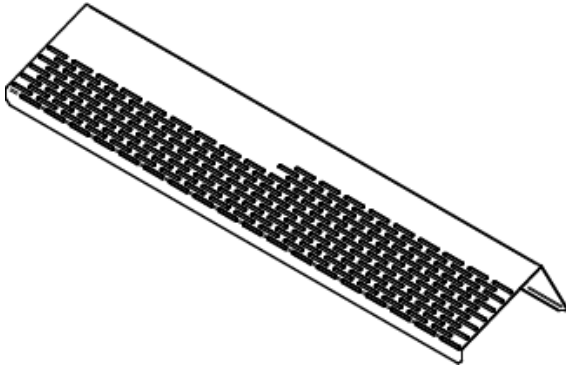

Figure 14: Grasslin FM1D20-120 programmable time clock to match store's meat department display times with an overlap.
- ...the Grasslin Time Clock (blue arrow above) is in off mode. This would be indicated by an open circle. In figure 14, the program is engaged indicated by a closed circle.
When the circle is filled, as in figure 14, the timer is in the on mode and the fogger power is not interrupted by the time clock.